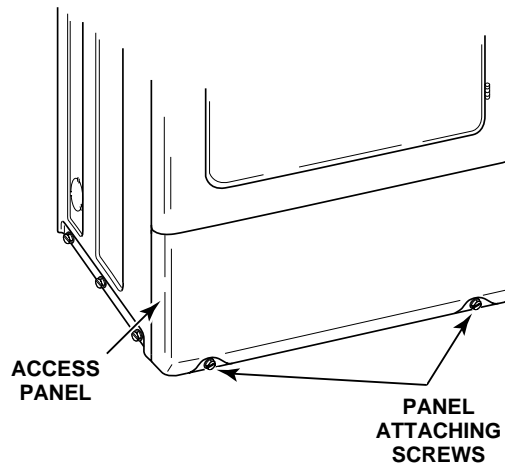

Figure 7
(Figure 7)
- f. While supporting the access panel, remove the access panel from both dryers by removing the two screws from the bottom edge of each access panel. See *Figure 7*.
- g. Gently lower each access panel to disengage panel locators from the bottom edge of each access panel. See *Figure 7*.